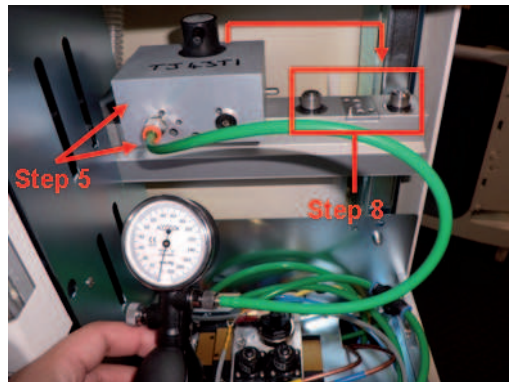

Figure 25 - Steps 5 and 8
5. Fit TJ43T1 (part of PN 930210) on the left position of the backbar and connect a bulb and pressure gauge to it (Figure 25).